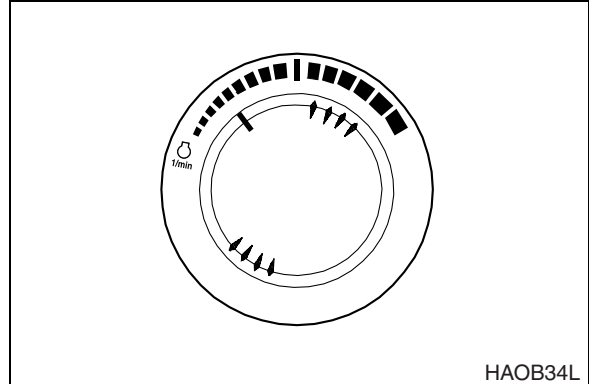

Figure 7
2. Set engine speed control dial slightly above "LOW IDLE" (Figure 7).